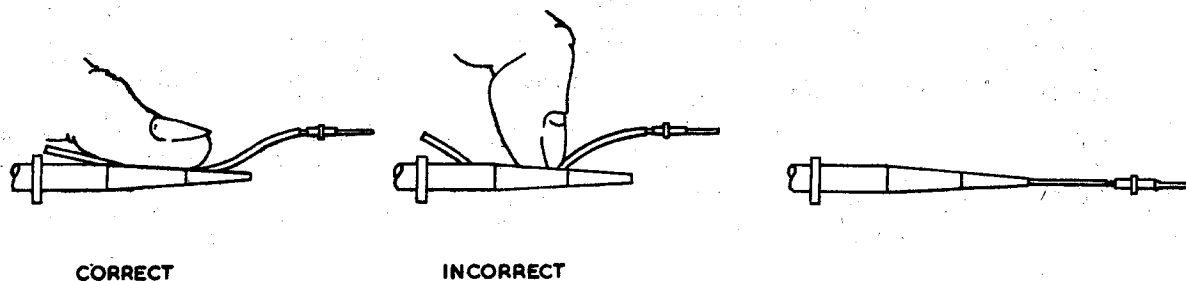

Fig. 8. Contact insertion into tool
with the thumb as shown in fig. 8; care must be taken to prevent damage to the cable insulation.
(3) Draw the tool back along the wire until it is correctly positioned as shown in Fig. 8 then push the tool forward until it locates on the shoulder of the contact.